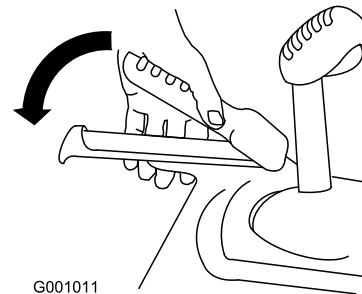

Figure 29
1. To engage the traction drive, squeeze the left hand (traction) lever to the handgrip (Figure 29).